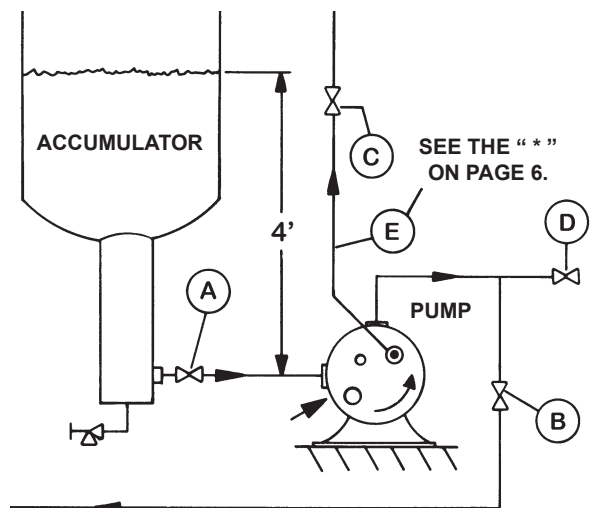
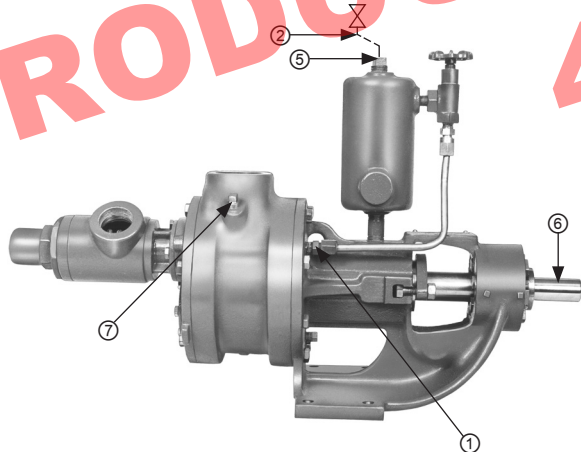
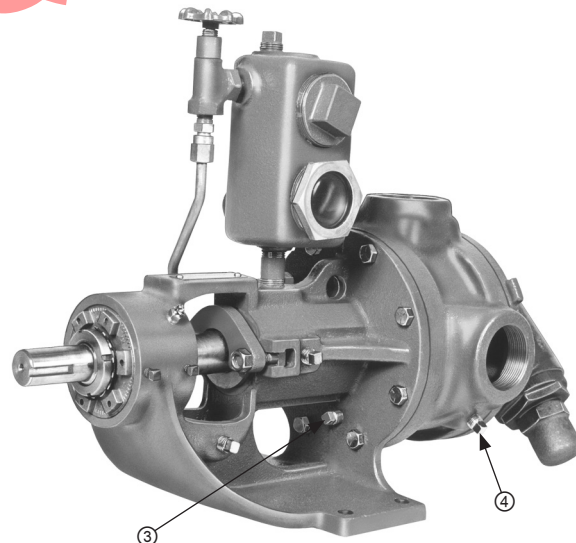

FIGURE 4
FIGURE 5
FIGURE 6
2. Close the inlet (suction) side shutoff valve. **A** in figure 4.
3. Close the discharge side shutoff valve. **B** in figure 4.
- Close all other shut off valves in lines connected to the pump. Typical shut off valves include **valve C in line E* in figure 4** from the pump mounted return-to-tank type relief valve to the accumulator or the valve from an in line mounted safety relief valve to the accumulator or the valve in a pressurizing line from the high pressure side of the system to the pump double seal oil reservoir, **line 2 in figure 5**.
* The segment of line (**E in figure 4**) between the return to tank pressure relief valve and the shutoff valve, C, should include a pressure relief valve vented to a safe area.
For systems with vent (purge or bleed) valves (e.g. **D figure 4**) go to step 6; for systems without a vent valve, go to step 7.
- A hose should be connected to any vent valve (e.g. **D in figure 4**) in the blocked off portion of the system. The open end of the hose should be placed under water in a tank containing at least 10 times as much water as there is ammonia in the blocked off portion of the system or the end of the hose should be lead to a safe, well ventilated area. After the hose has been attached and the open end properly located under water, then open the vent valve. Check the open end of the hose to make sure the ammonia is venting. After ammonia has stopped venting, continue with step 8.
- If there are no vent valves in the blocked off piping, the Viking Model 4925 ammonia pump should be vented by carefully loosening the fitting (**1 in figure 5**) on the lower end of the tubing that runs from the pump bracket to the double seal oil reservoir.
If there is no line from the bracket to the reservoir, carefully loosen the pipe plug (drain), **3 in figure 6** towards the bottom of the bracket. This pipe plug is found only on the “K”, “KK”, “LQ” and “LL” 4925 pumps. The small “HL” 4925 does not have one. When working on an “HL” 4925 that has no line between the bracket and double seal oil reservoir, carefully loosen the pipe plug, **4 in figure 6**, in the suction port of the pump.
- Carefully loosen any unions or tubing fittings in any other lines to the pump that have been blocked off by closing the shutoff valves so that venting from these segments of the system can be accomplished. Typical of such lines would be that from the pump mounted return-to-tank relief valve to the accumulator, **E* in figure 4**, or a line from the high pressure side of the system to the double seal oil reservoir, **line 2 in figure 5**.
- Carefully loosen the fill plug, **5 in Figure 5**, in the top of the double seal oil reservoir.
- After the ammonia has stopped venting, turn the pump shaft, **6 in figure 5**, over for at least 10 complete revolutions. This will make sure that there is no pocket of accumulated ammonia that has not been exposed to a venting point.
- Carefully loosen the plugs, **4 in figure 6 and 7 in figure 5**, in the suction and discharge ports of the pump. If ammonia continues to vent, wait until the venting stops. When venting from all the loosened connections stops, then complete the loosening of the fittings and complete the removal of the plugs.